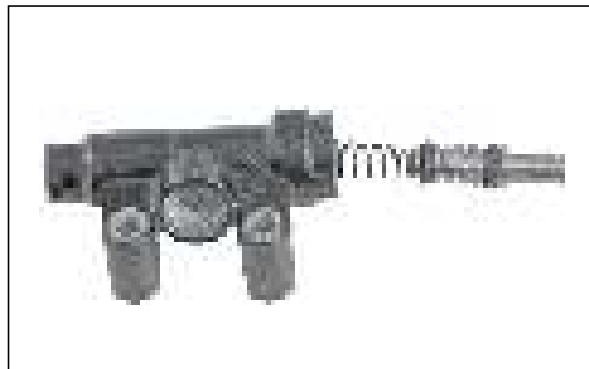

Fig. 6.135
- Slowly pull out the piston along with P - cup, S - cup and spring. (Fig. 6.135)